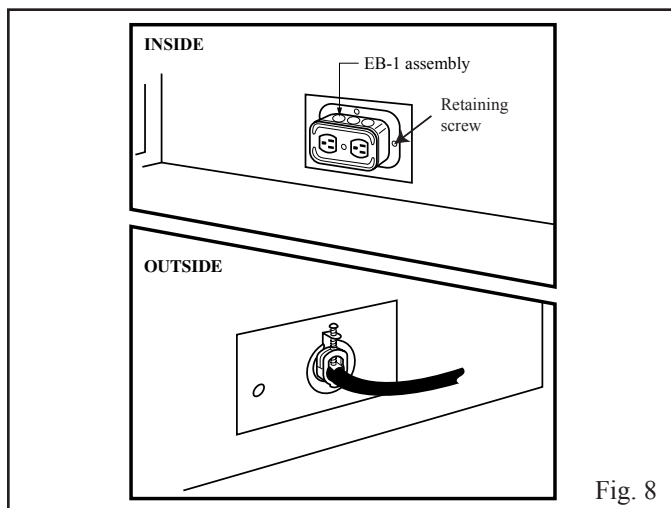

Fig. 8
1. Unscrew the retaining screw from the EB-1 base plate, Fig. 8 and remove the EB-1 assembly from the appliance.
4. Feed the supply line in through the EB-1 opening in the side of the appliance and then through the back of the EB-1 assembly, Fig 8.